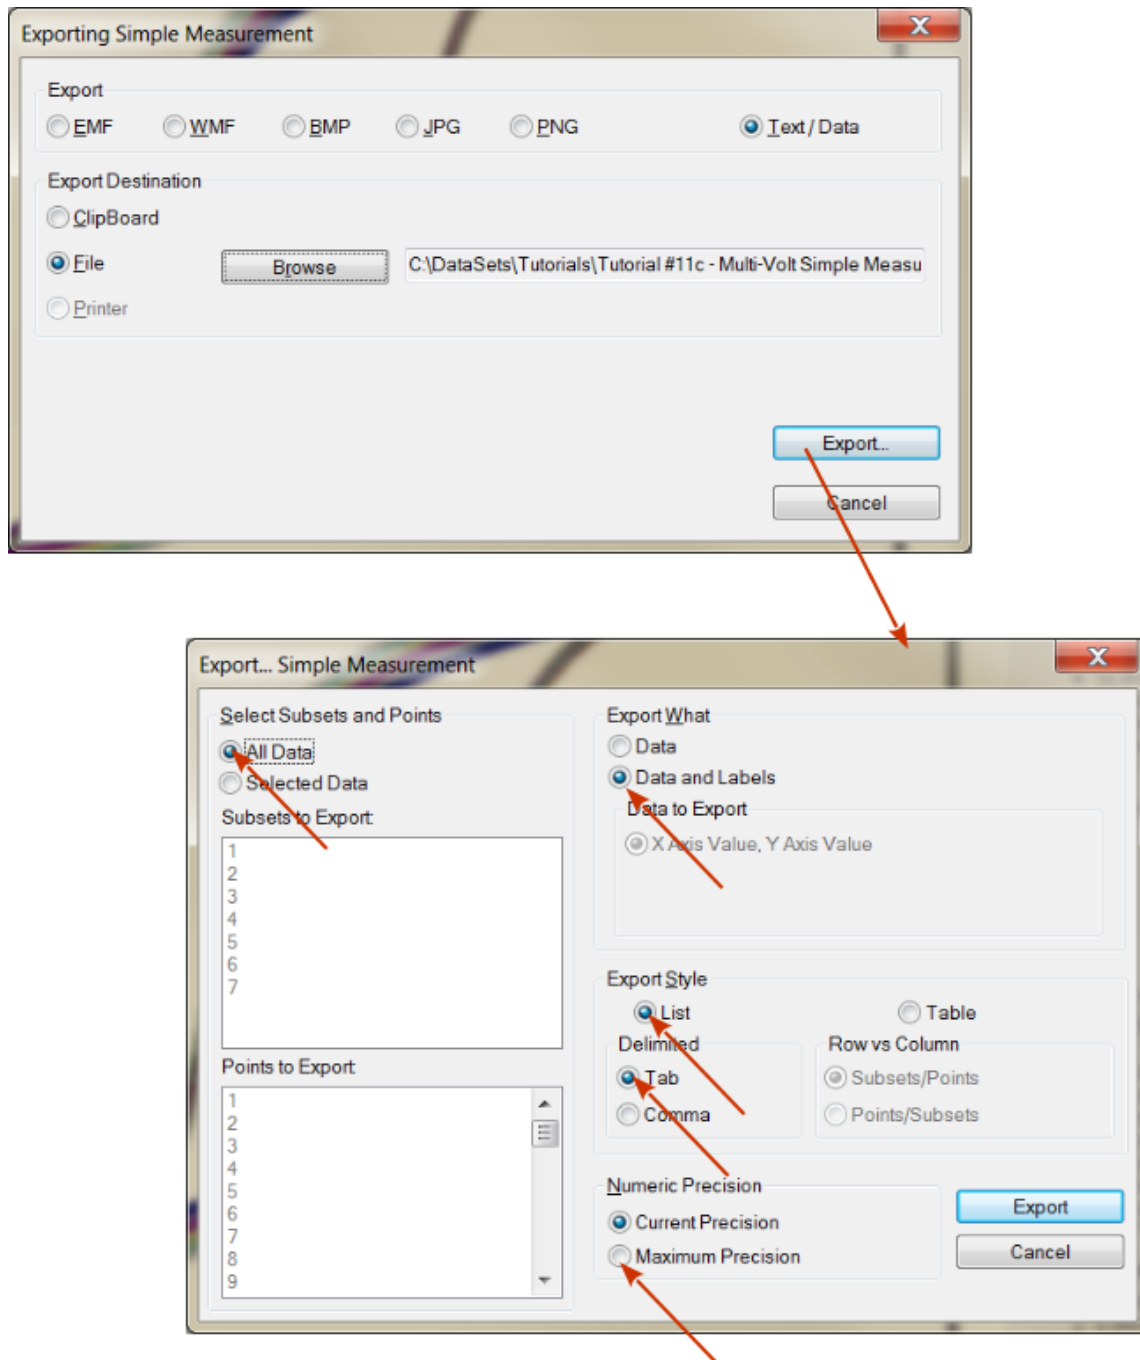

Figure 14 - Configure the Export Details.
11. Click *Export*. Configure the second dialog as in **Figure 14**.